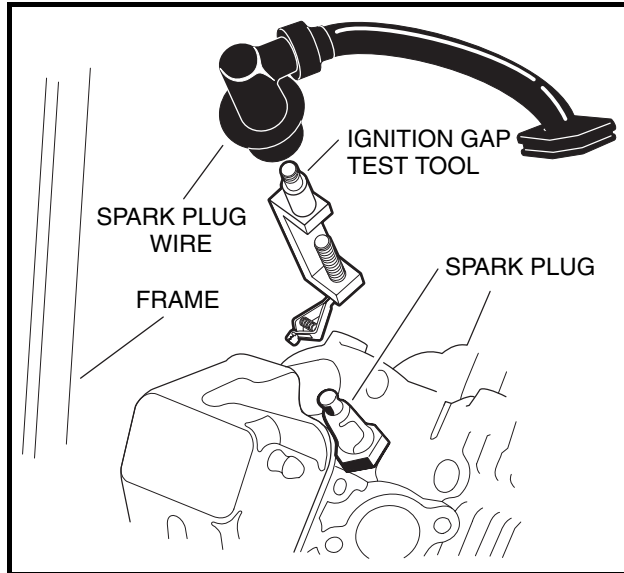

Figure 11-23 Ignition Spark Test
2. Remove the plug wire from the spark plug. Using an ignition spark gap test tool (Thexton 404[®] or equivalent), check for correct spark (**Figure 11-23, Page 11-25**).